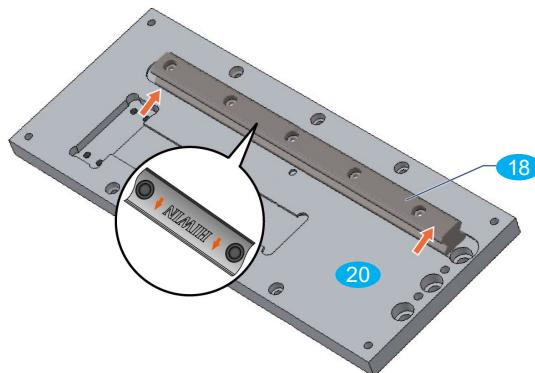

Fig. 36: Assembly of Z-axis linear rail
- Align the linear rail Z 18 on the plate Z 20 and screw it in with socket head screws; the reference edge (Fig. 36, see magnifying glass) of the linear rail must lie on the milled stop edge of plate Z over its entire length.